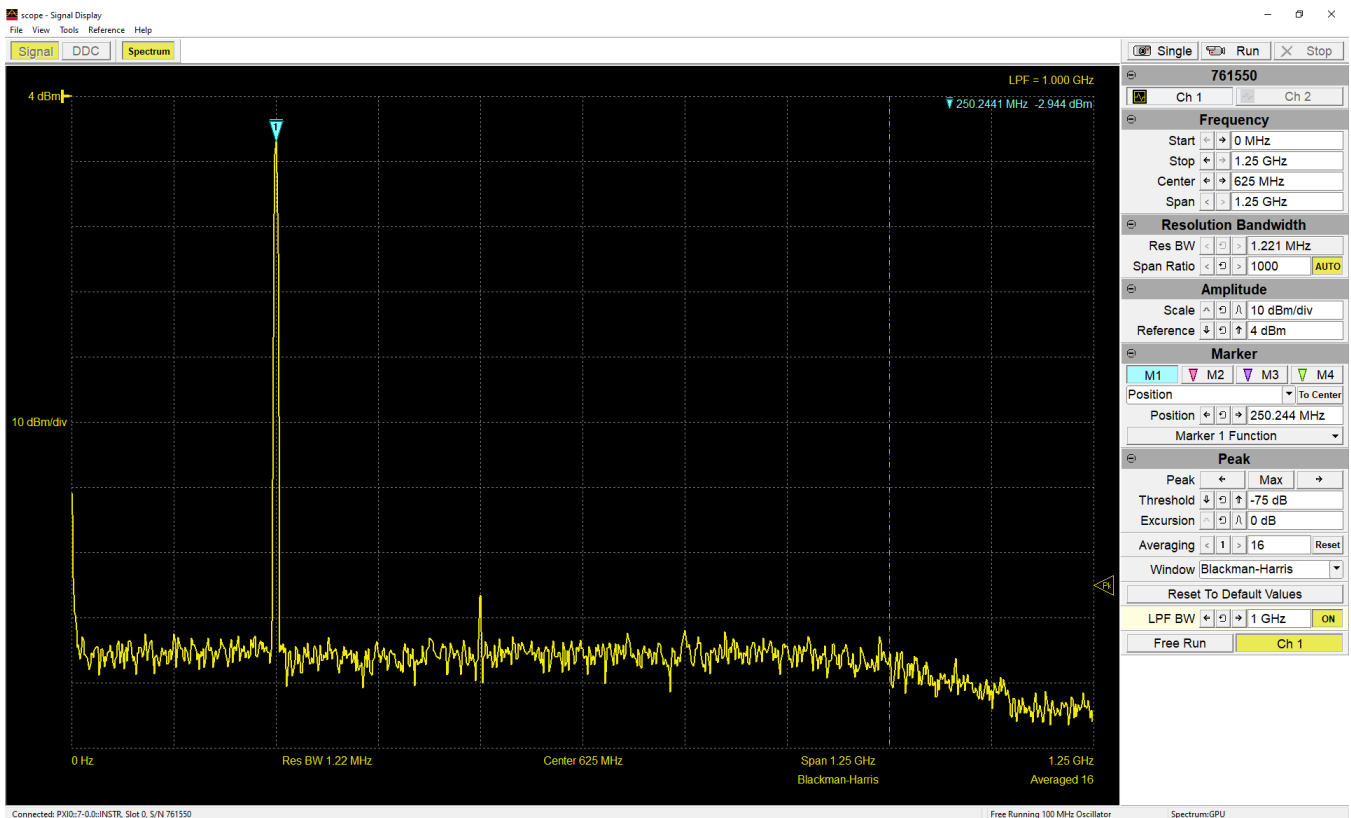

Figure 22. Spectrum analyzer (frequency domain) display with software control panel
- Spectrum Display mode – to observe input signal in frequency domain (See Figure 22)